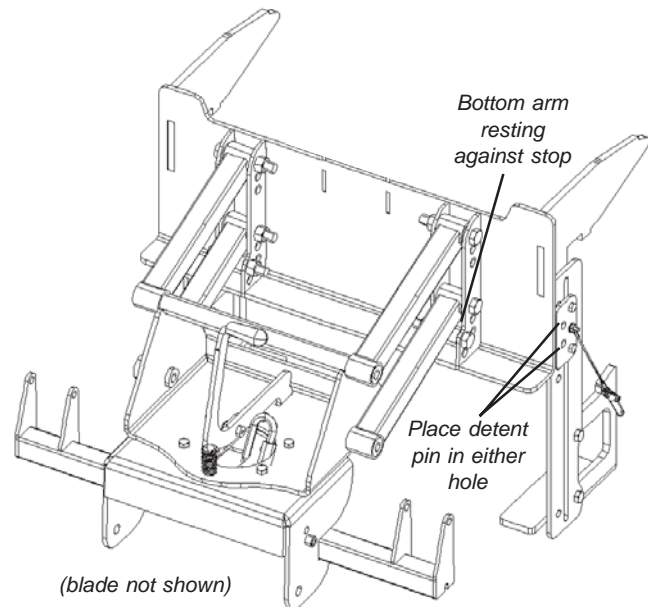

Figure 27 Assembled plow support and base
29. Lift the support off the ground until the bottom arms rest against the arm stop. See Figure 27.
30. Place a detent pin in one of the two holes. See Figure 27. Place the other detent pin in the same hole on the opposite side.